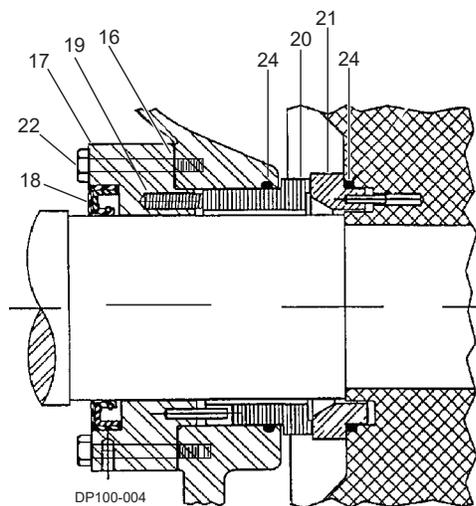

Figure 29
4. Pull the seal out with a hook tool. Insert a new water lip seal with the lip facing in. (See item 18 in Figure 29 on page 15.)
1. See Figure 29. Install the gland plate lip seal (18) into the rear of the gland plate (17).
2. Apply a small amount of sealant to one end of each of the six springs (19) and place them in the gland spring holes (17).
3. Install the gasket (16) to the sealing face of the gland plate (17).
4. Attach the gland plate (17) to the mill body using the existing capscrews.
5. Install one O-ring (24) into the groove in the mill body.
7. Lubricate the O-ring (24) and small O.D. of the seal (20) with a compatible lubricant. Install the seal into the mill, aligning the notches on the seal with the pins in the gland plate.
8. Lubricate the remaining O-ring (24) with a compatible lubricant and install it on the small O.D. of the seat (21).
9. Install the seat (21) (with pins and O-ring) into the rear of the rotor, aligning the pins with the holes in the rotor.
10. Install the rotor onto the shaft, being careful to avoid damage to the seat (21) or seal (20). Tighten the rotor nut to 75 ft-lb (102 N·m).